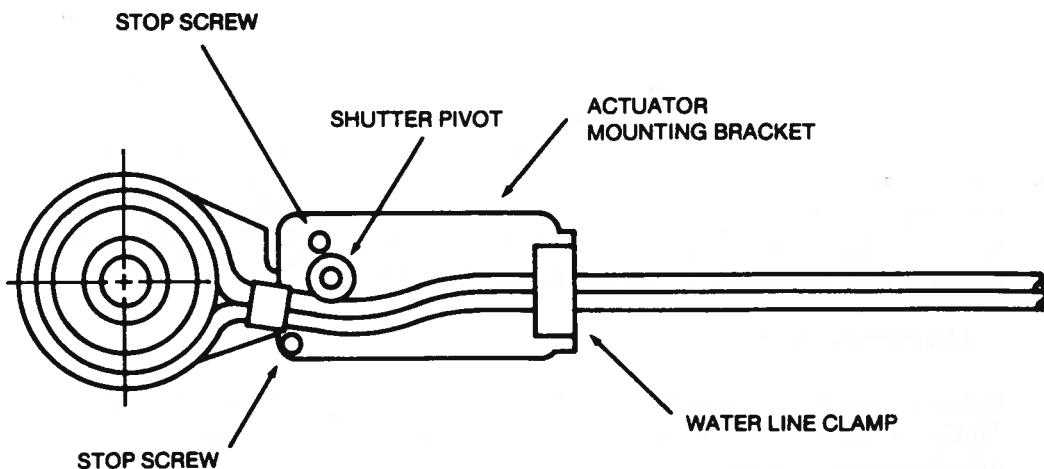

Figure 3 - Bottom View
4. Place the sensor cover on the shutter module assembly as shown in Figure 3. The sensor water lines will fit between the shutter pivot and stop screw. Carefully bend the water lines as shown.